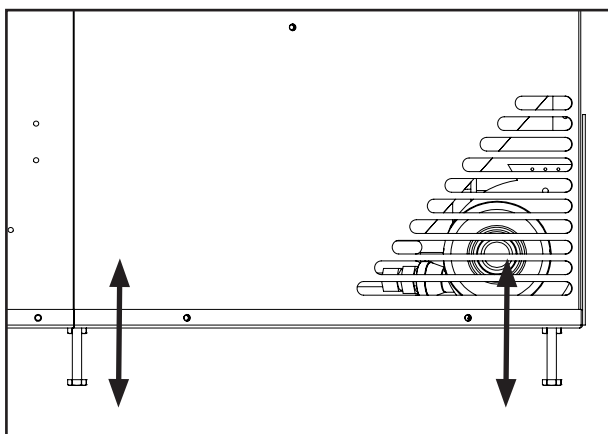

Figure 37: Levelling Legs Position.
15. Adjust the levelling legs to ensure the unit is level and high enough if a base shelf and/or riser is to be installed. There are four levelling legs on the bottom of the unit (shown in Figure 37).